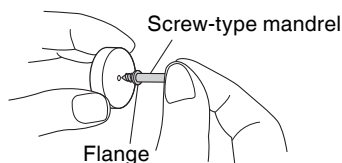

Fig. 7 (a)
- How to use the wheel mandrel (Fig. 7 (b))